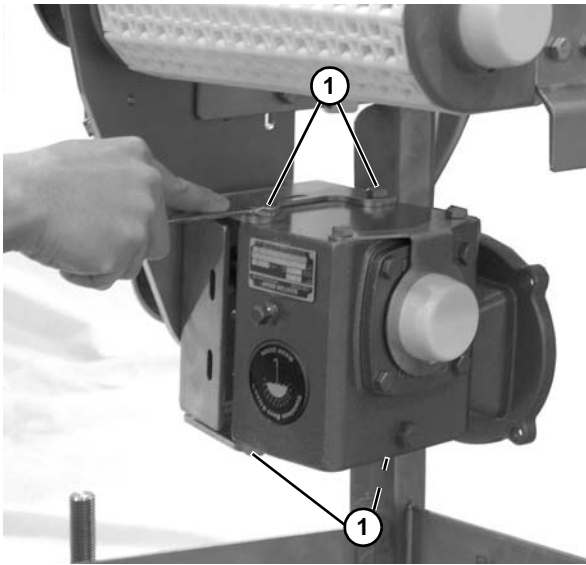

Figure 24
11. Install gear reducer to mounting bracket and tighten bolts (Figure 24, item 1).